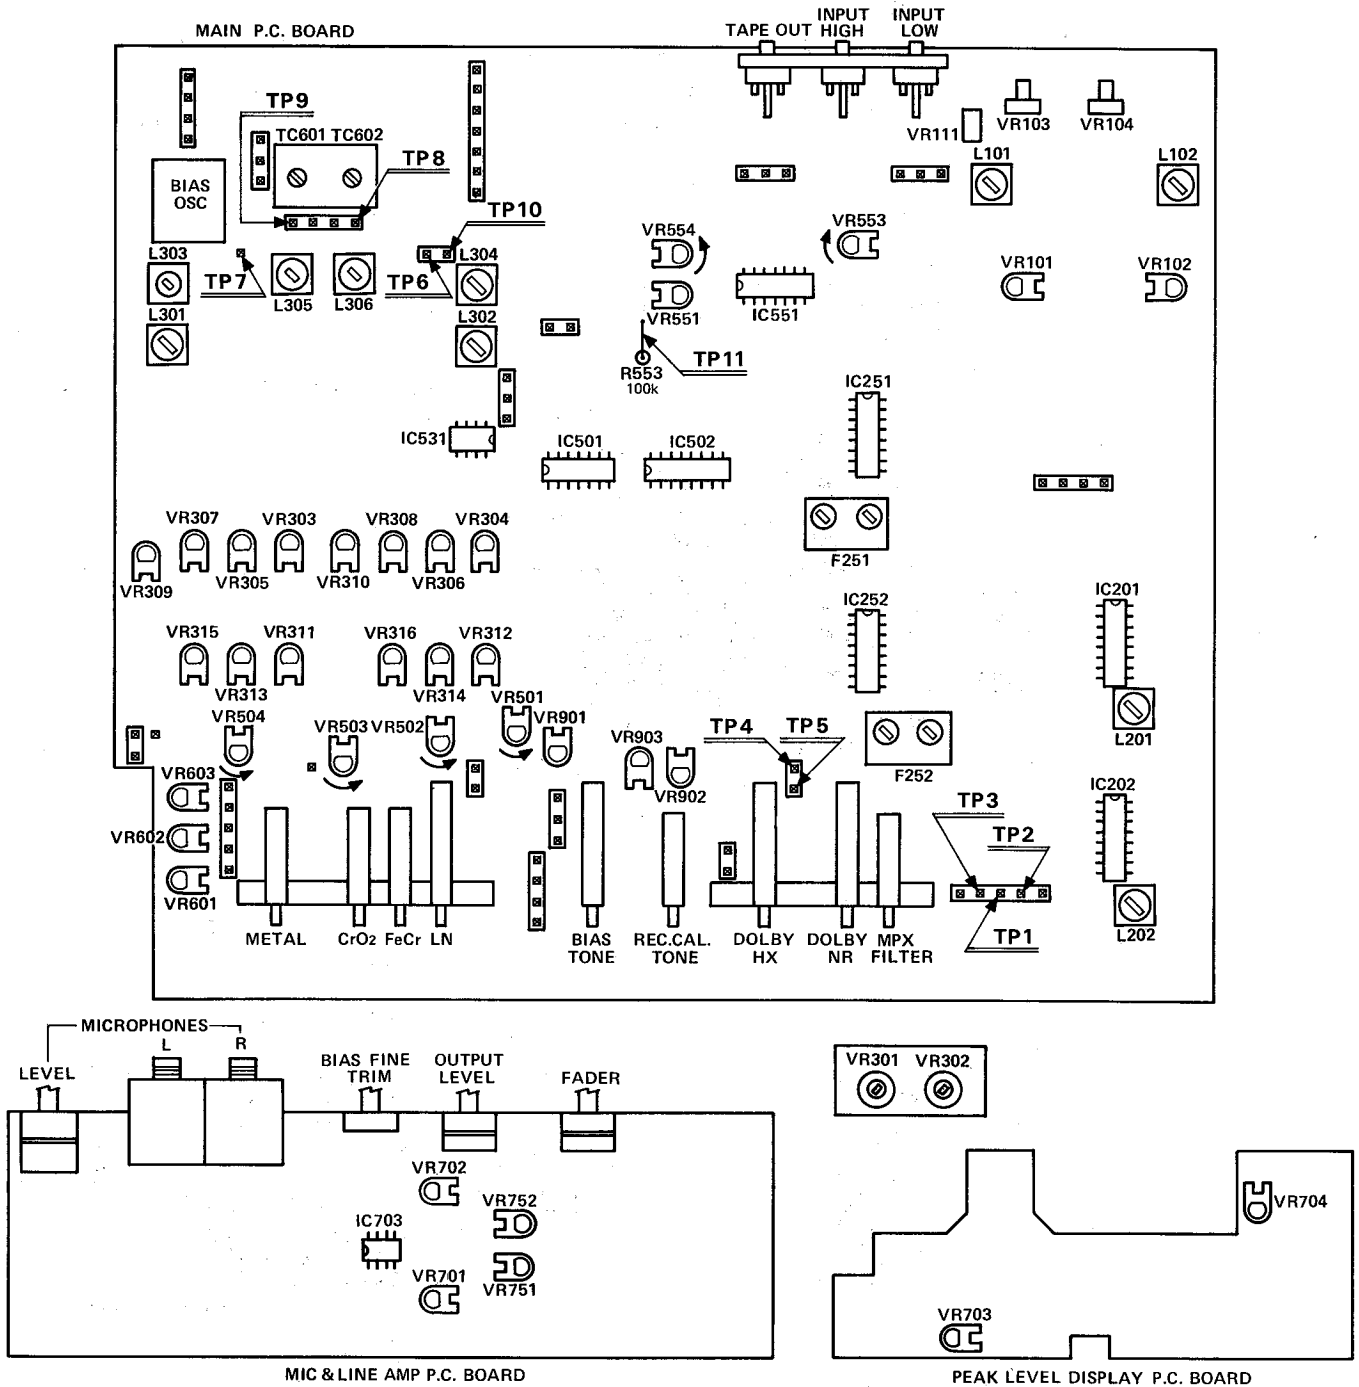

Fig. 5 — Alignment Points Location
4. Turn VR501 to maximum counterclockwise position in accordance with an arrow as shown in the Fig. 5, and keep note of the bias level on V.T.V.M. 1 at the time.
7. Turn VR502 to maximum counterclockwise position in accordance with an arrow as shown in the Fig. 5, and keep note of the bias level on V.T.V.M. 1 at the time.